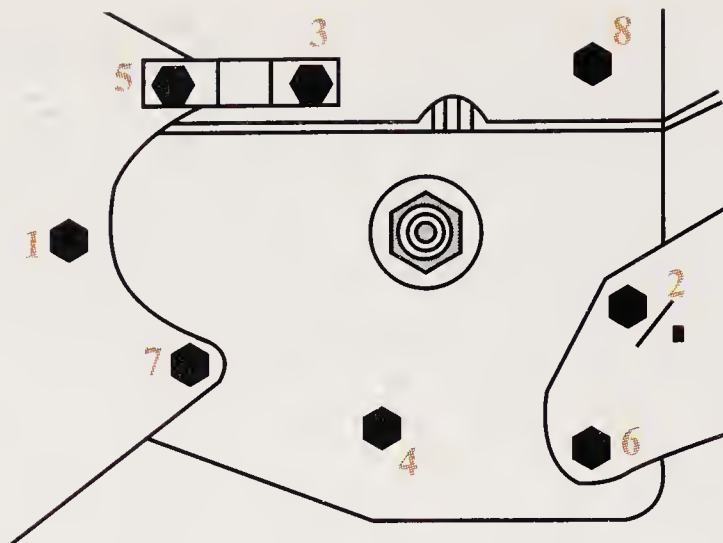

Figure 3-33. Bolts on an engine head should be tightened in a crisscross manner.
9. **Use a crisscross tightening pattern.** Final torquing should follow either a basic crisscross pattern or the factory recommended pattern. This procedure produces even gasket compression and sealing, and prevents possible warping of parts. See **Figure 3-33**.